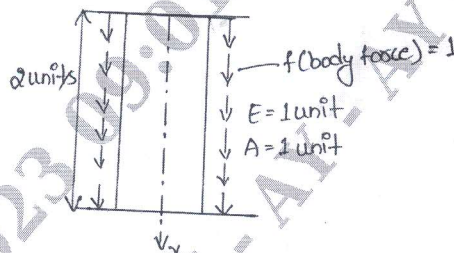

Fig. Q2 (b)
- b. Use the Rayleigh-Ritz method to find the displacement at the mid point of the rod shown in Fig. Q2 (b).